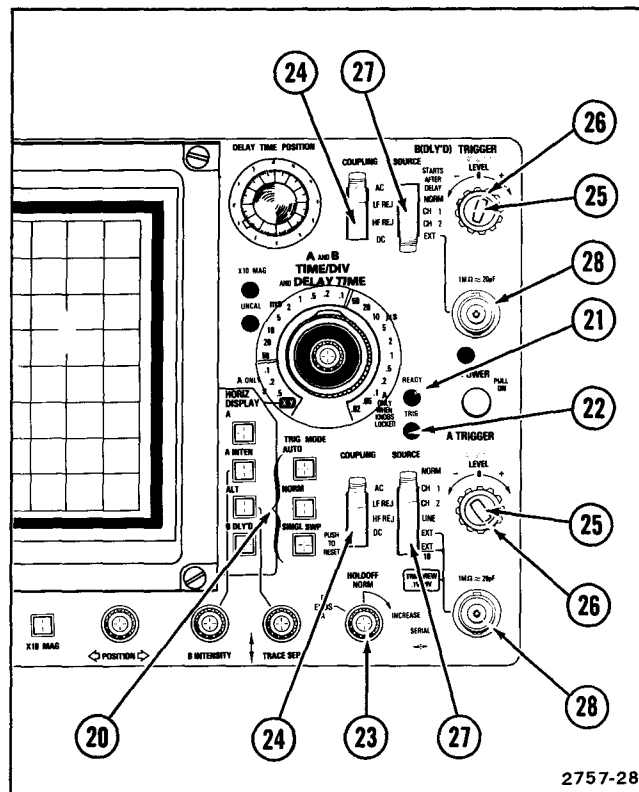

Figure 2-5. Trigger controls, connectors, and indicators.
Refer to Figure 2-5 for location of items 20 through 28.
- ②⑩ **TRIG MODE Switches**—Three push button switches determine the mode of trigger operation for the A Sweep.